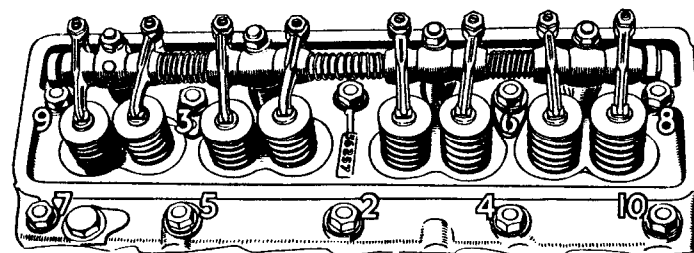

Fig. 11. The correct sequence in which to tighten the cylinder head nuts
4. Easing each nut a little at a time, undo the 10 cylinder head holding nuts in the order shown in Fig. 11. If not done in the correct order there is a risk of distortion of the cylinder head.
guides will cause excessive wear leading to heavy oil consumption. Dirt in the inlet ports could be sucked into the cylinders and score the walls, leading to less efficient compression and increased oil consumption. Lightly coat a new cylinder head gasket with sealing compound: Wellseal is very good; and tighten the cylinder head holding nuts down a little at a time in the sequence shown in Fig. 11, to a final torque of 105 ft/lbs. with a torque wrench. Replace the pushrods and rocker shaft and set the valve clearances as described on page 58. Reconnect the various ancillaries. After a few miles the cylinder head should be tightened down again to 105 ft/lbs. when hot and the tappet clearances checked.
- (1) remove rocker cover, and the rocker shaft, easing each of the 4 bolts at a time.
- (2) lift out pushrods.
- (3) undo the 10 cylinder head holding nuts a little at a time and strictly in the order shown in Fig. 11.
- (4) lift off the head, and remove the gasket and hurl it far into the darkness of the night. Do not use it again.
- (5) using a valve spring compressor, remove the valves, marking them so that they can be returned to the same position.